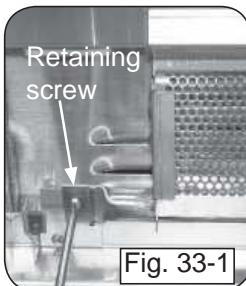
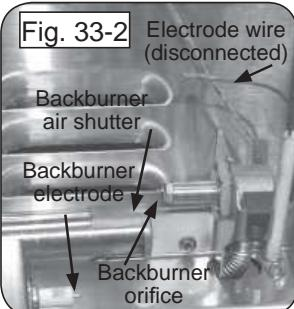

Fig. 33-1
Fig. 33-2 Electrode wire (disconnected)
6. Pull the wire from the ignitor electrode (Fig. 33-2), then remove the backburner retaining screw on the left of the backburner (Fig. 33-1) using a Phillips screwdriver.